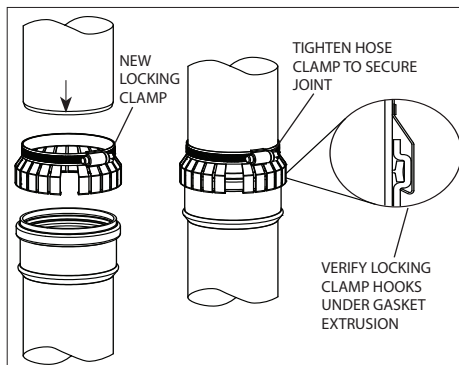
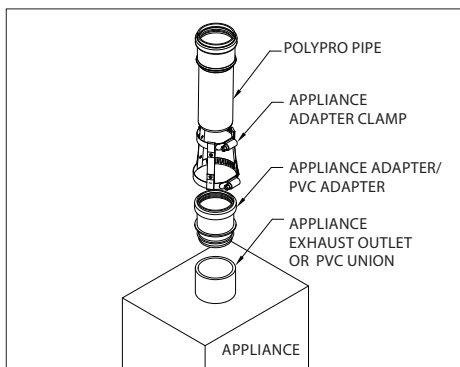
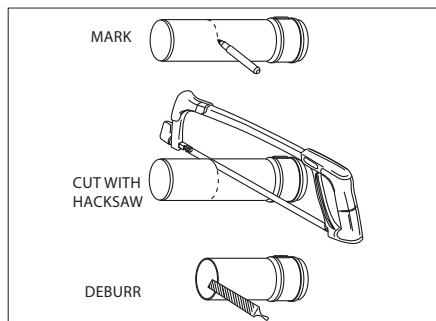

Figure 3b
Figure 4
Figure 6
Locking Clamp (New Design): Verify the gasket is seated evenly inside the groove in the female end. Assemble the joint by passing the male end of the Polypro Pipe through the Locking Clamp on the hose clamp side and into the female end of the PolyPro pipe, (**Fig.3b**). Hook the Locking Clamp onto the gasket extrusion on the female end and tighten down on the hose clamp.
1. If the appliance has a PVC/CPVC female outlet, use the Appliance Adapter/ PVC Adapter and Clamp. (Fig.4)
1. Pipe lengths may be cut to length (Fig.6). **If the Locking Tab is removed use the new Locking Clamp (Fig.3b PPS-LC) or alternative clamp (Fig.4 PPS-PAC / PPS-LBC) for the connection.**